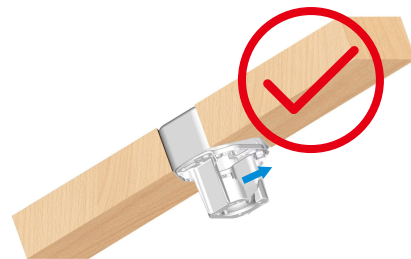

Fig. 5.4
1. When installing the mounting bracket, the bracket groove should be facing upward, as shown in Fig. 5.4.